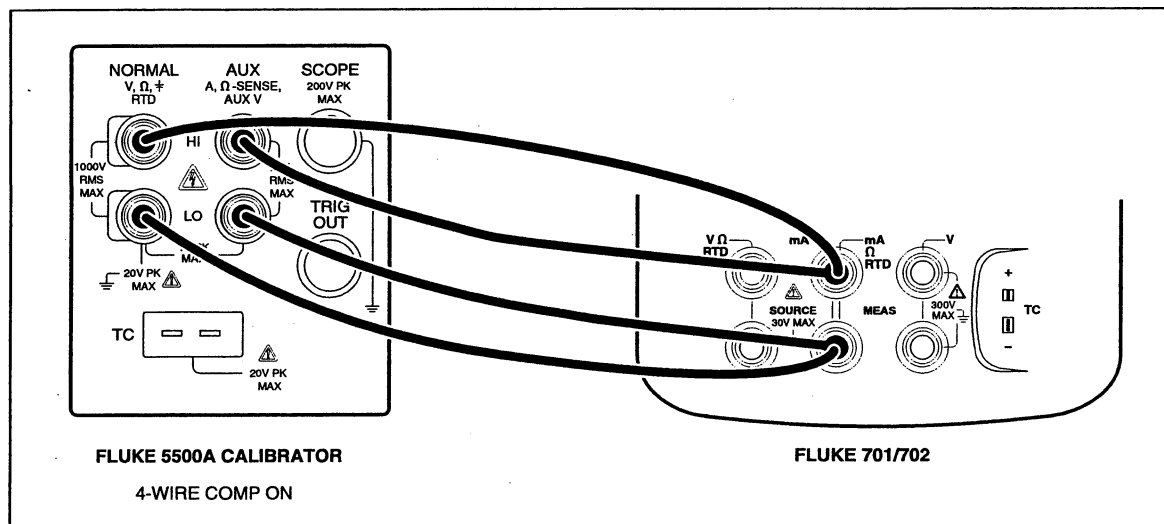

Figure 3-3. Resistance Measurement Verification Connections
1. Connect the UUT to the 5500A as shown in Figure 3-3. Use a two-wire connection transitioning to two wires at the UUT, and turn Four-Wire Compensation on. (If you are using a 5700A, use external sensing, and turn Two-Wire Compensation on.)